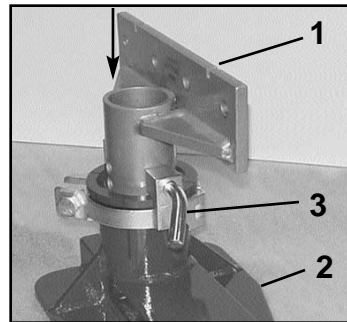

Figure 1
- Adapter Tubes in Universal Anchoring Stand Bases and insert height adjusting pins. (See Figure 1.)